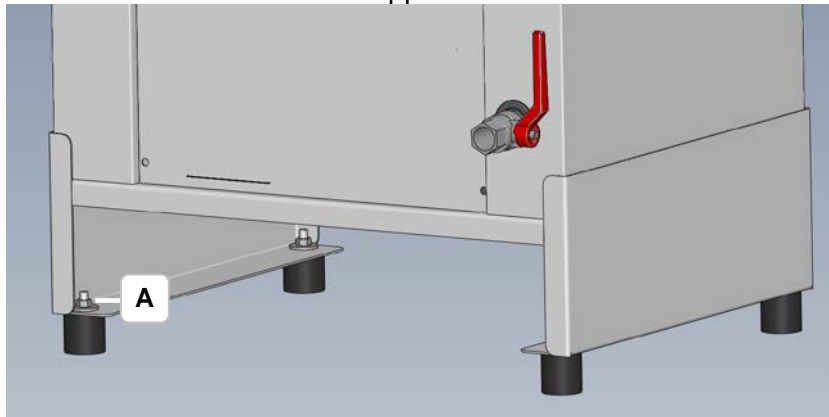

Fig. 5.2.1. Absorber feet mounted to the frame
Use the washers and nuts (*Fig. 5.2.1.A*) delivered with the unit to fix the rubber feet to the support frame.
1. Use the threaded bolts (*Fig. 5.2.1.A*) delivered with the unit to fix the rubber feet to the ship floor (use concerning drilling template included).